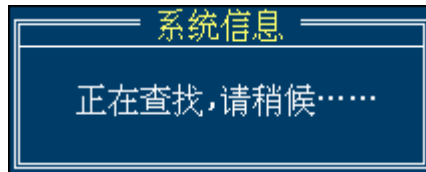

Figure 4-6 Finding a Character String
- 3) Press <Enter> key to confirm input. Then a window will search the input character string backward from the current cursor position. During the searching, it will show a hint dialog as figure 4-6 shown, and then press <Esc> key will cancel search.